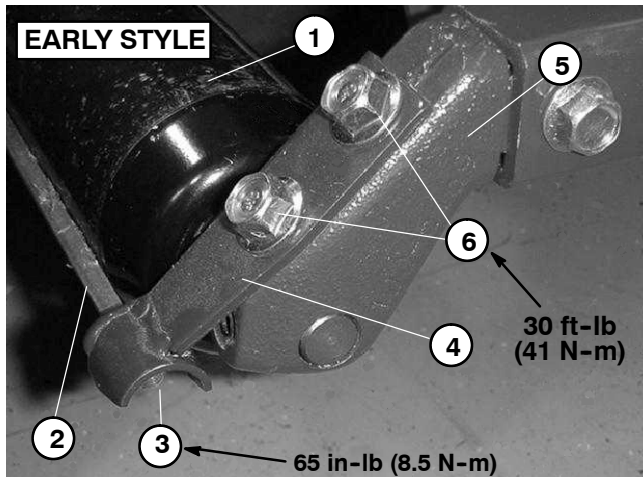

Figure 3
1. On scraper rods equipped with lock nuts (Fig. 3), loosen lock nut securing one end of scraper rod to mounting bracket. For proper roller scraper adjustment, there should be approximately .005 to .020 inch (.13 to .51 mm) end play in loosened rod.
5. On scraper rods equipped with lock nuts (Fig. 3), tighten scraper rod lock nut to 65 in-lb (8.5 N-m).
NOTE: On scraper rods equipped with lock nuts (Fig. 3), if one side of scraper rod becomes worn, it can be rotated in the mounting brackets 180 degrees for a new edge.